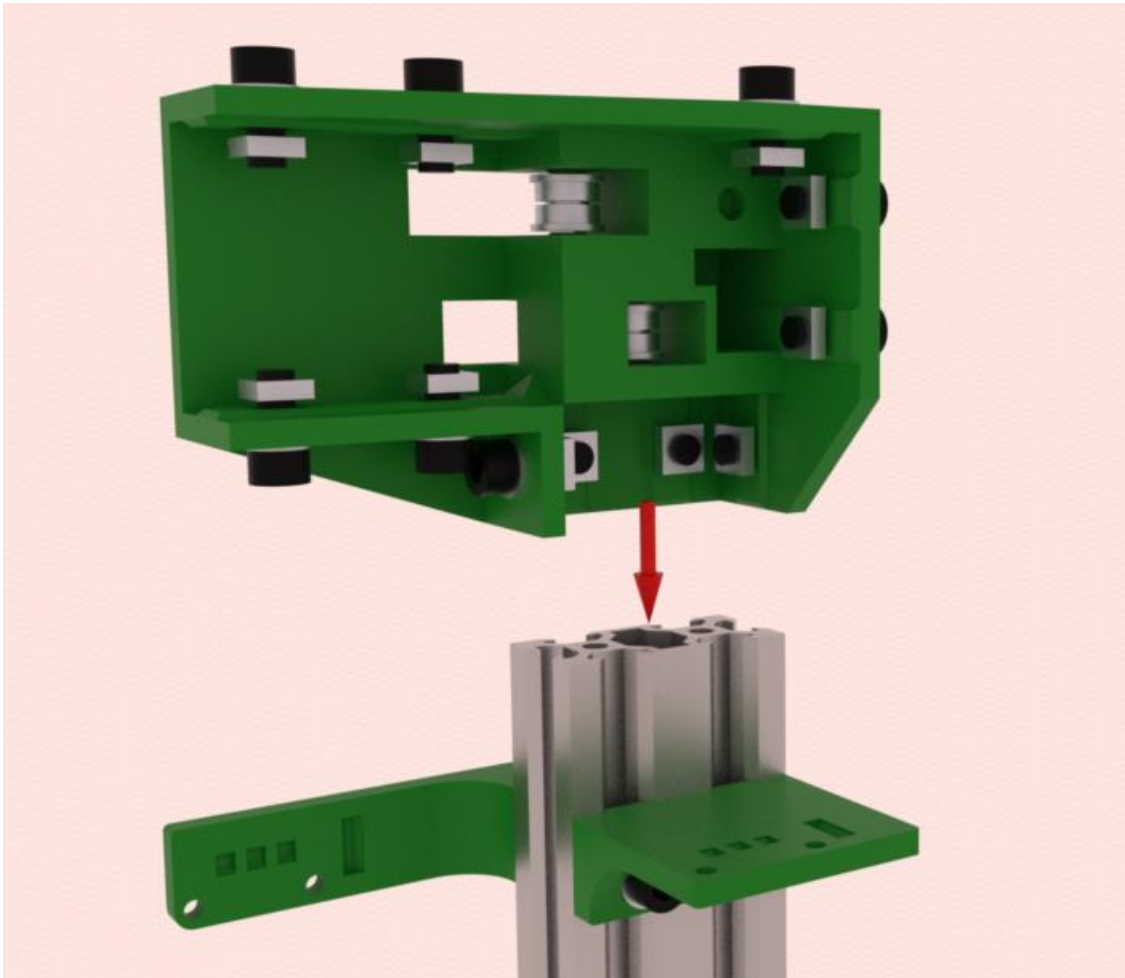

Figure 8: V-Slot and square nut alignment example
- Put an M5 10mm bolt with an M5 washer through each plastic frame part where needed and put a square nut on the end of the bolt. Leave off the 14 bolts which attach to tapped holes for now. Some M5 bolt mounting locations are countersunk and do not need M5 washers. Once nuts and bolts are placed on plastic pieces, slide each part onto the V-slot rail from the open end as shown in Figure 8. The square nuts need to be lined up with the V-slot ends.